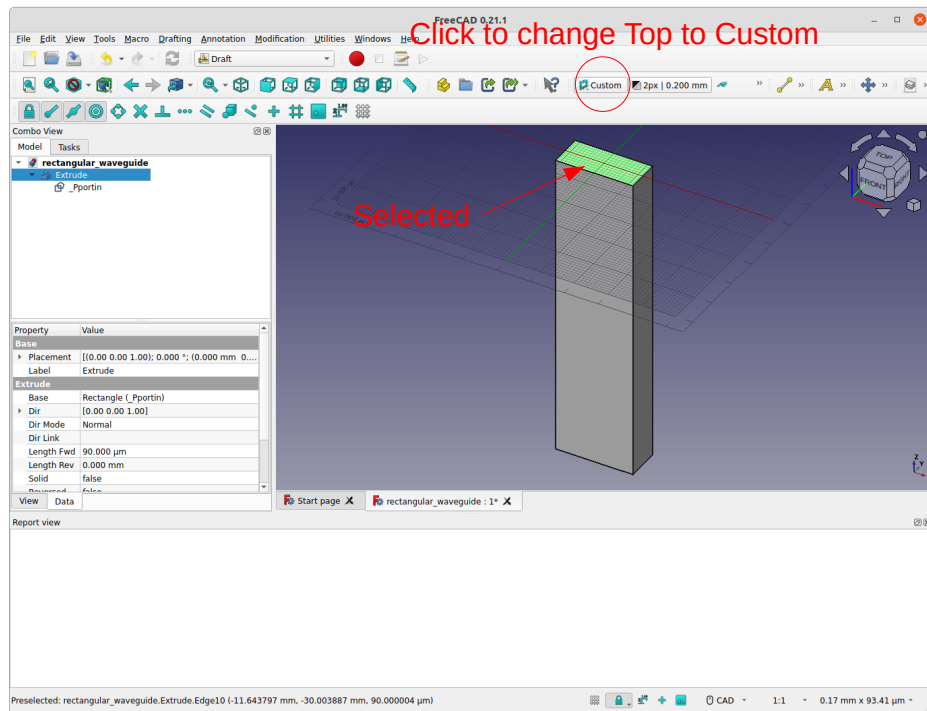

Figure 4: Setting the drawing plane to the end of the extrusion.
- Click on the end of the long extrusion that is opposite of **_Pportin** then change the drawing plane to this plane by selecting **Utilities**→**Select Plane**. Alternatively, click the menu bar item as shown in Fig. 4 to change from **Top** to **Custom**.